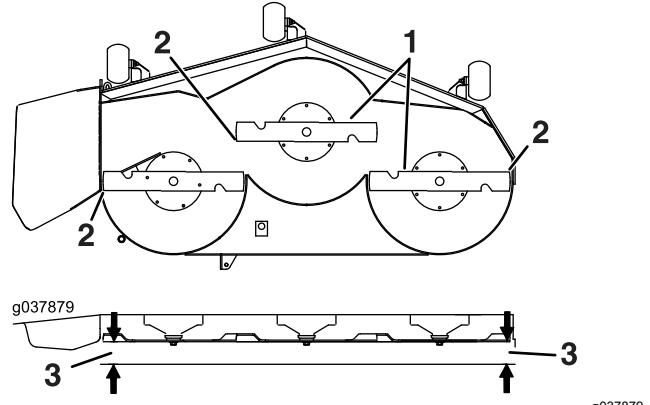

Figure 98
- Measure between the blade tip and the flat surface (Figure 98). If both measurements are not within 5 mm (3/16 inch), adjust the leveling; continue with this procedure.
14. Carefully rotate the blades side to side (Figure 98).